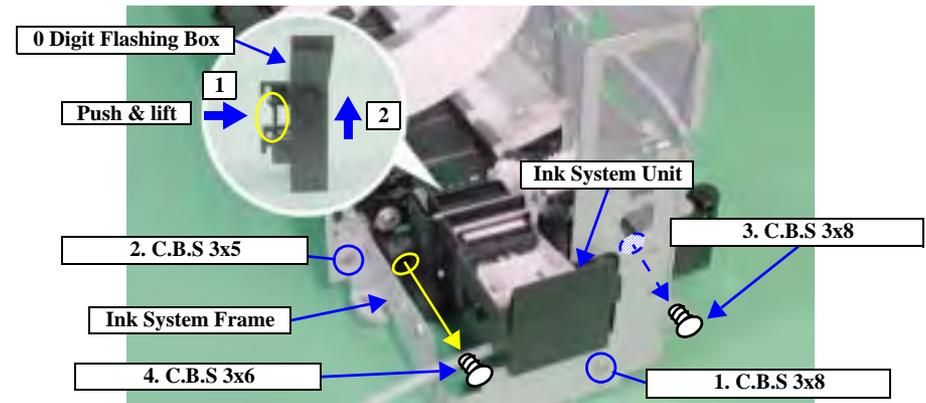

Figure 4-67. Ink System Unit Removal
- Follow the order shown in Figure 4-67 to remove the 0 Digit Flashing Box from the Printer Mechanism.